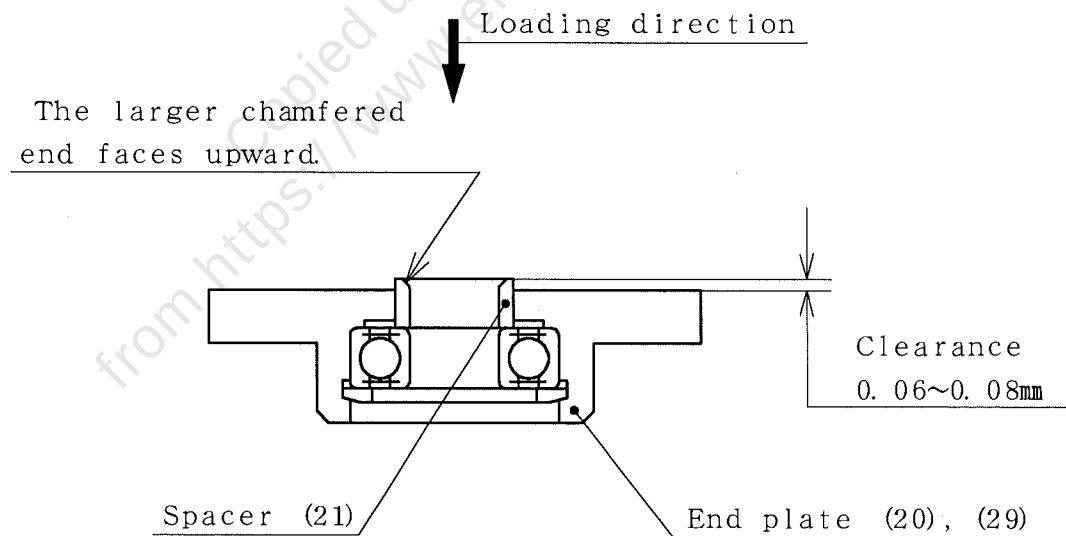

Fig. 15
- ② Install Spacers (21) so the larger chamfered end contacts Rotor (24) (see Figure 15).
Allowance for the projection is 0.06~0.08 mm (see Figure 15).